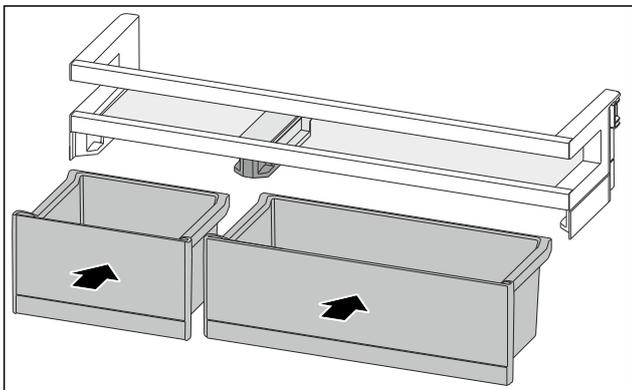

Fig. 83
- ▶ Insert the VarioBoxes in reverse order. (see Fig. 83)